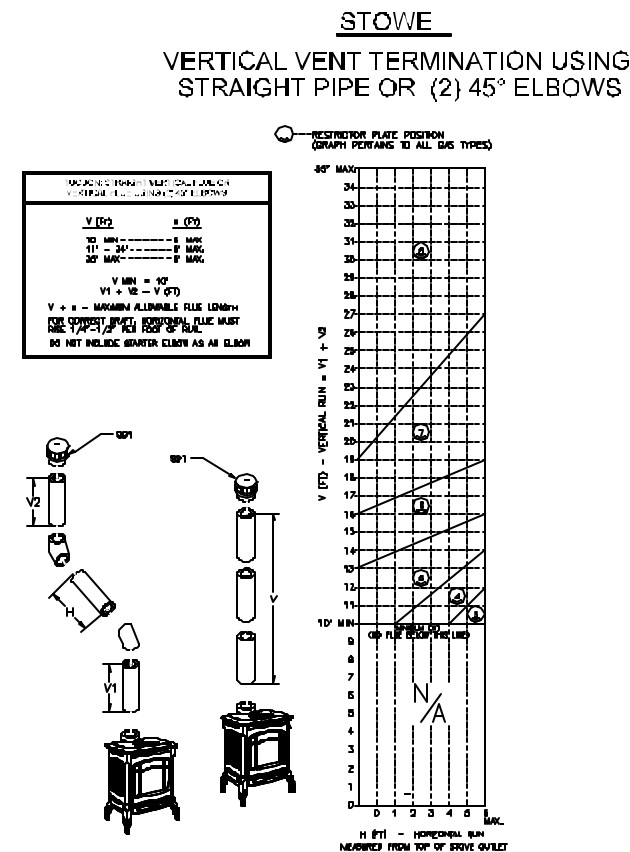
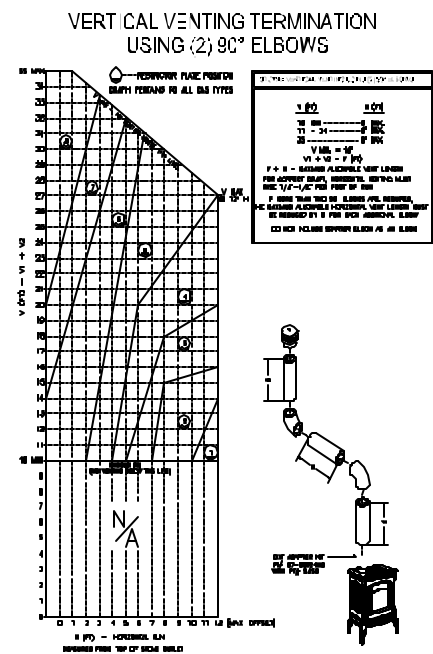

FIGURE 12 VERTICAL TERMINATIONS USING STRAIGHT PIPE
FIGURE 13 VERTICAL TERMINATIONS USING (2) 90° ELBOWS
APPROVED VERTICAL TERMINATION VENTING CONFIGURATIONS WITH NO ELBOWS OR (2) 45° OFFSETS (FIGURE 12), AND (2) 90° ELBOWS (FIGURE 13)
- 6' maximum offset (refer to Figure 12)
- 12' maximum offset (refer to Figure 13)
- The termination must fall within the outline shown in Figures 12 & 13. Use the indicated restriction plate position. The restriction Plate part # is 5950-922.